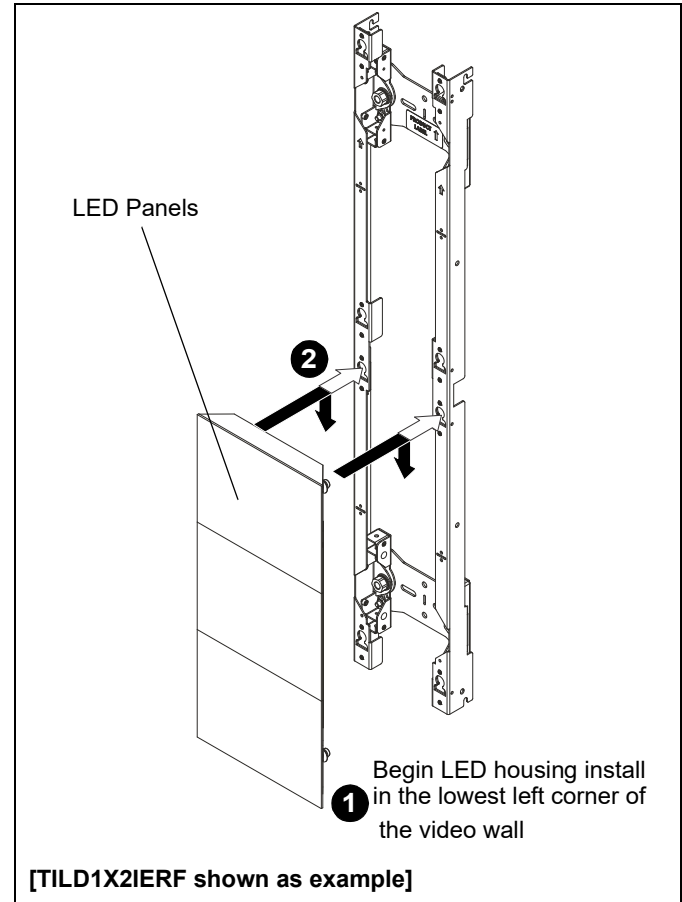

Figure 14
1. Install the first LED housing in the lowest left-hand corner of the video wall by aligning mounting buttons on the housing with the mounting holes on the wall mount. (See Figure 14)